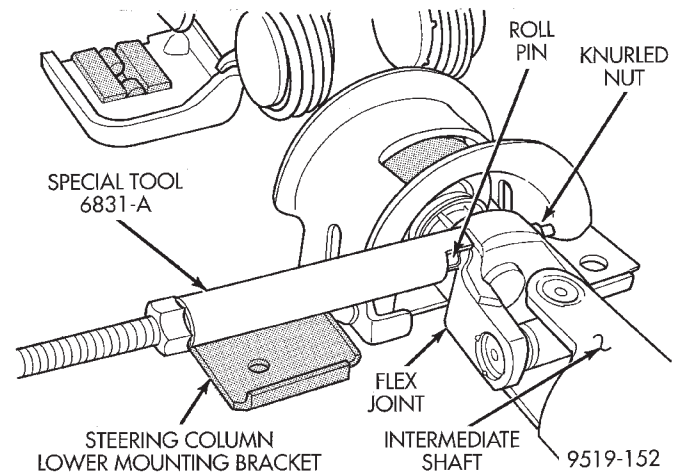

Fig. 25 Removing Roll Pin From Flex Joint
(1) Remove steering column assembly from vehicle. Refer to the Steering Column Removal Section in this group of the service manual for the required removal procedure.
(2) Install Puller, Special Tool 6831-A through center of roll pin in flex joint and install knurled nut (Fig. 25).